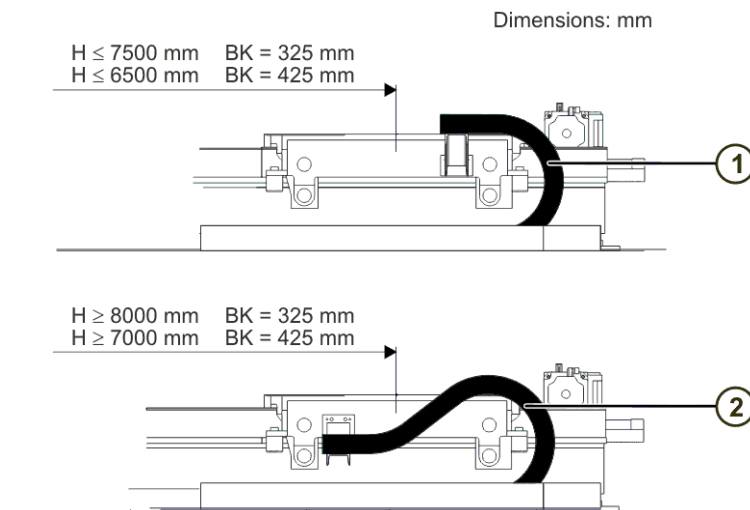

Fig. 3-5: Attaching the energy supply system
Figure (>>> Fig. 3-5) below shows the two variants for attaching the energy supply system. These depend on the travel (H) of the carriage and on the chain width (BK).